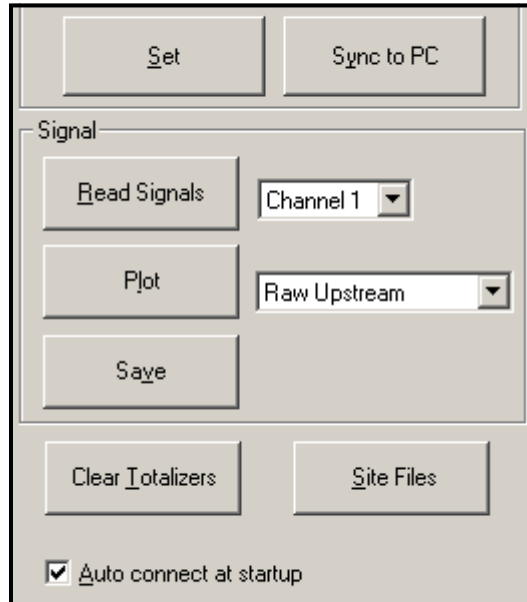

Figure 27: Active Signal Options in Properties Window
1. Click on the *Read Signals* button. (If the meter is a multi-channel instrument, open the Channel drop-down menu and click on the desired channel.) After a moment, the *Properties* window appears similar to *Figure 27* below.